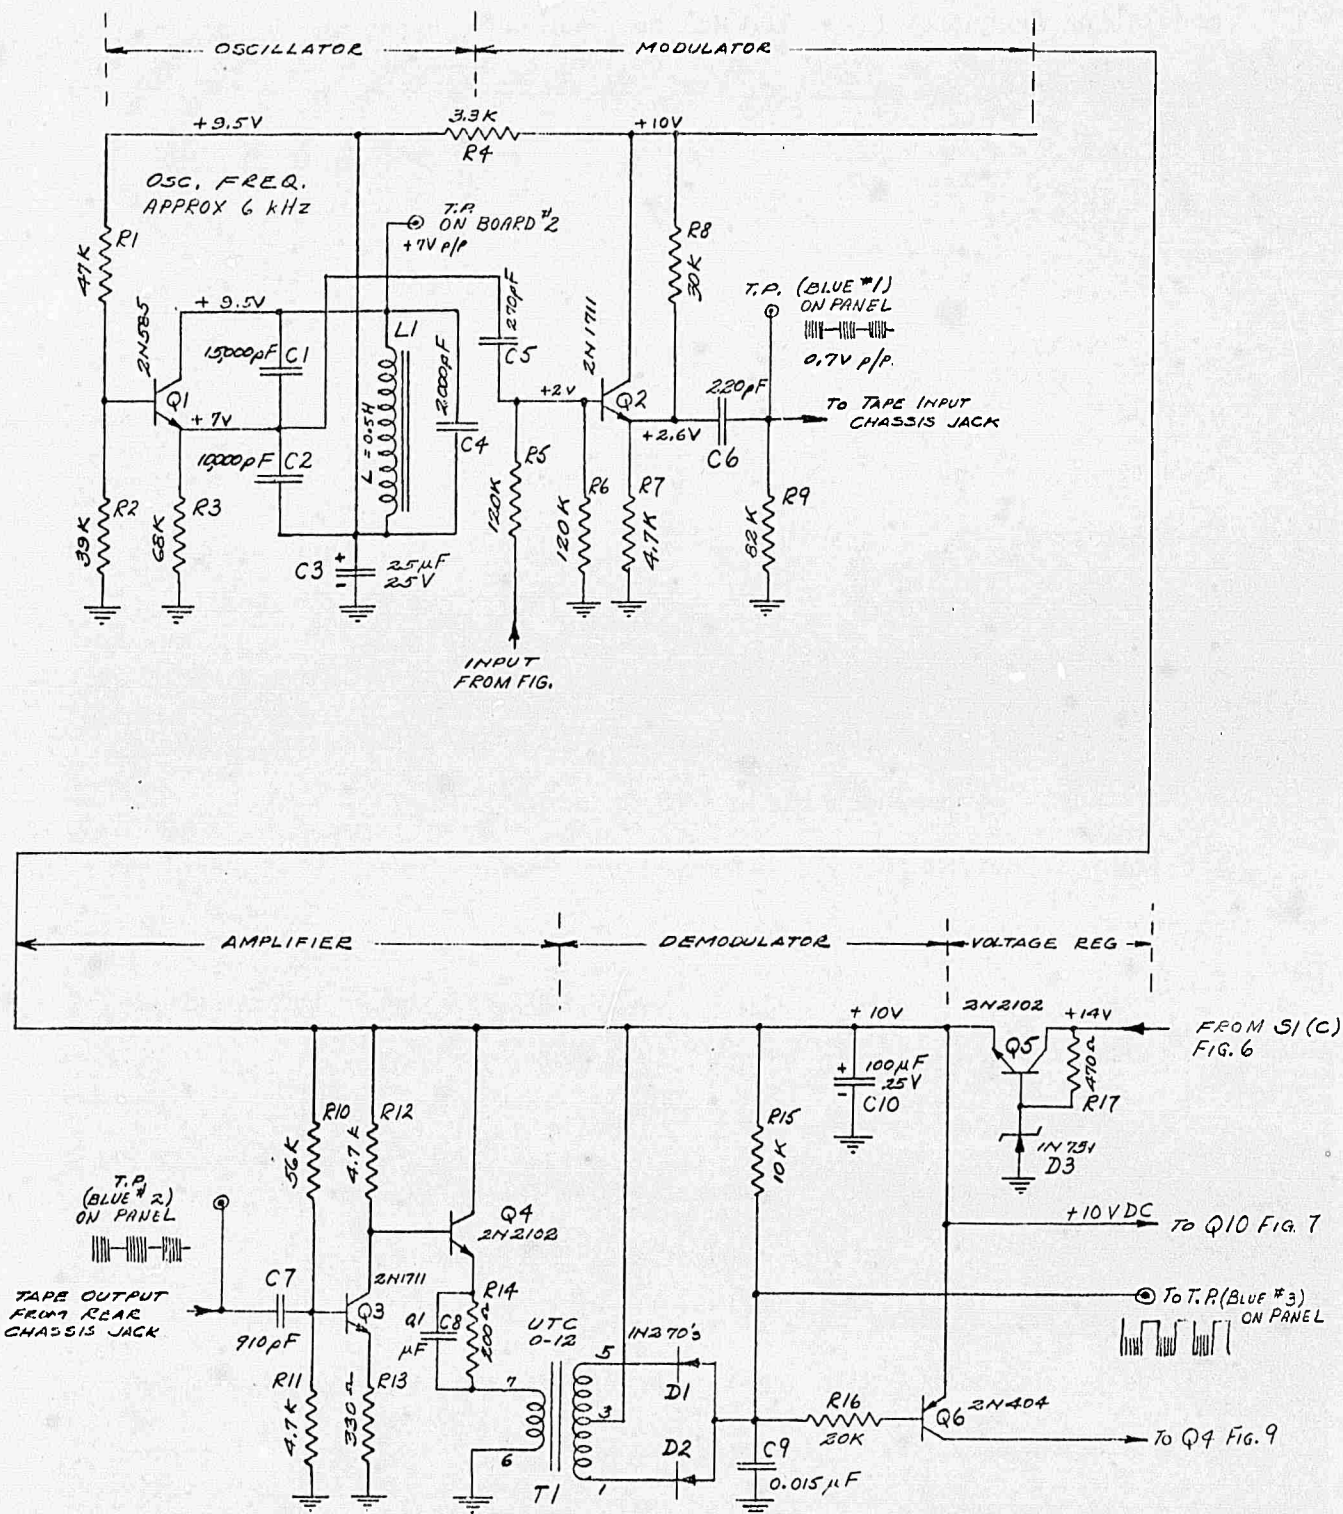
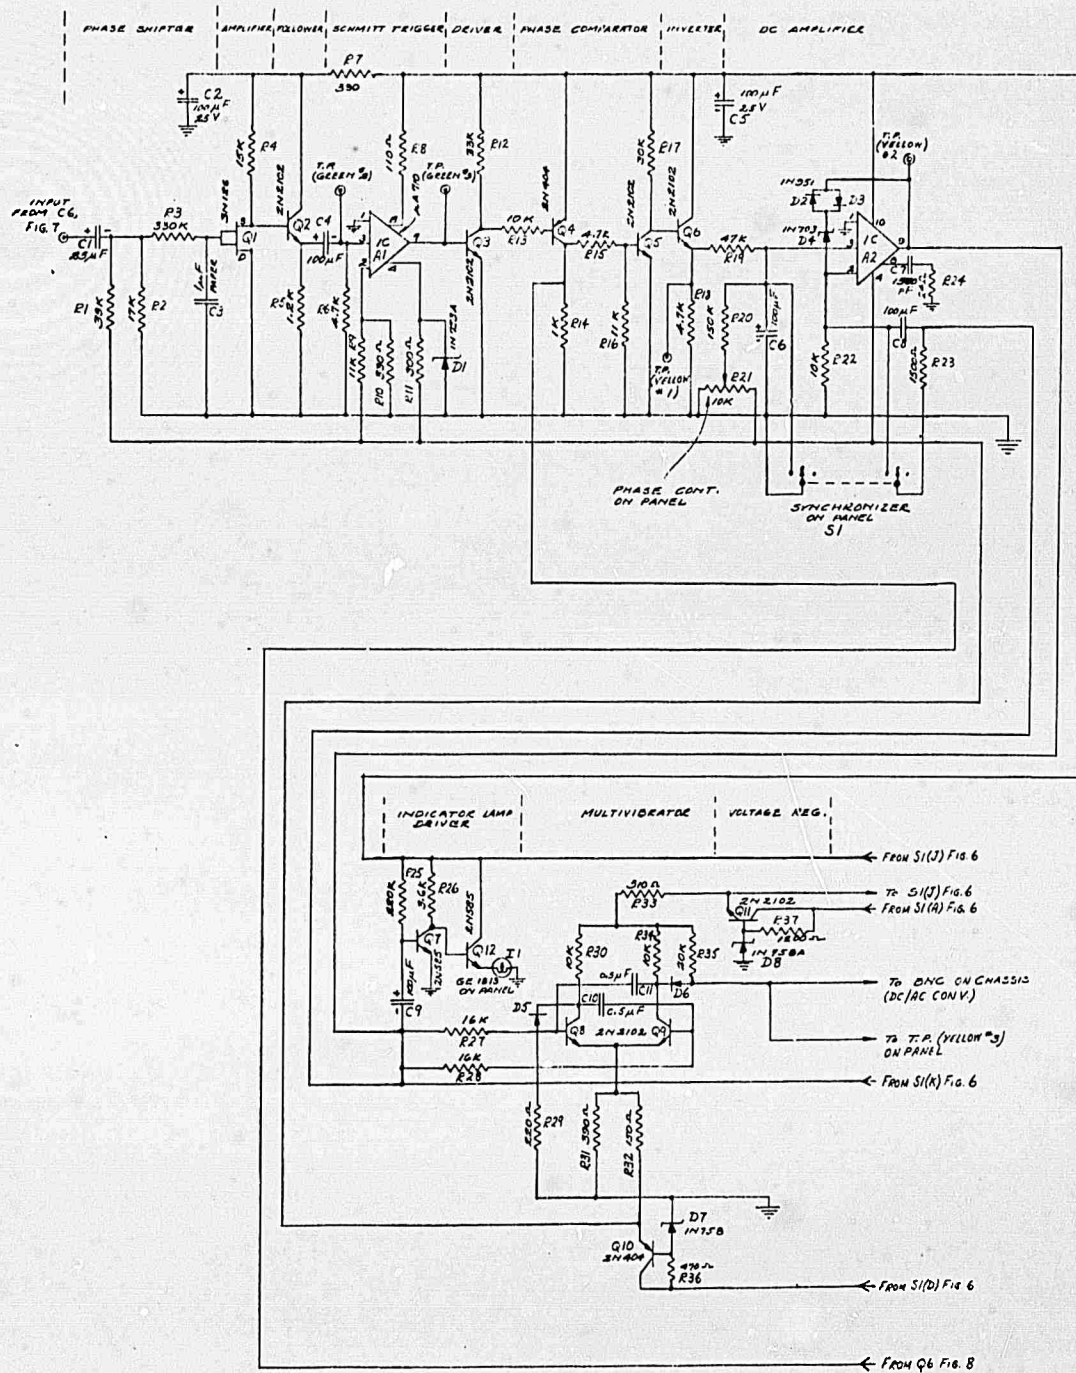

Figure 8. Tape-Deck Control-Channel Modulator/Demodulator (Board No. 2), Schematic Diagram
Figure 9. Tape-Deck Delay Servo System (Board No. 3), Schematic Diagram
4. Blue Test Points* (Fig. 8)
8. STABILITY Indicator (I1, Fig. 9)
9. PHASE Control (R21, Fig. 9)
10. SYNCHRONIZER Switch (S1, Fig. 9)
13. Yellow Test Points* (Fig. 9)
14. Green Test Points* (Fig. 9)
3.1.2 Modulator/Demodulator (See Fig. 8)
The demodulator is severely RC undercoupled into a single amplifier stage (Q6) with a gain of about 15, so as to remove the remaining low-frequency components plus any that accumulate within the Tape Deck electronics for any reason, including the rectification of remanent RF energy from the Retransmitter. A direct-coupled emitter follower (Q4) feeds a push-pull peak rectifier (T1, D1, D2), thus recovering the original modulating waveform envelope except for some residual carrier. It was possible to reproduce the original phase extremely closely, partly because it was a square wave, where zero crossings are most important. The recovered wave drives a pnp transistor (Q6), which is really part of the phase-comparator or combining circuit (Fig. 9). The phase-comparator output eventually automatically regulates the tape speed, so that the comparator output is the DC equivalent to a one-quarter-duty-cycle pulse train.
3.1.3 Quadrature (90° Lag) Circuit (See Fig. 9)
3.1.4 Phase Comparator (See Fig. 9)
The phase comparator (Q4) is the heart of the servo system; it compares the phase of the Tape-Deck-delayed wave from (Q6, Fig. 8) with that of the 90° -shifted wave. Its output is RC averaged (R19 and C6, Fig. 9) and amplified (A2) and used to control the frequency of an oscillator (multivibrator, Q8, Q9). The oscillator, in turn, determines the tape speed and, thus, the delay applied to the Tape-Deck inputs, and the Tape-Deck outputs feeding back to the comparator.
The main function is performed by coupling the outputs of two electronic switches (Q6, Fig. 8; and Q4, Fig. 9) to a single resistor (R14, Fig. 9). Each switch applies the same voltage, resulting in an output of positive pulses with varying duty cycle. When the tape-caused delay is exactly 180° (half a chopping cycle), a three-quarter-duty-cycle wave results. This is reversed to become a one-quarter-duty cycle, which is then averaged and amplified as DC(A2). This DC equivalent to the one-quarter duty cycle is balanced out with negative bias applied to amplifier A2; in effect, then, the phase comparator output is zero. Any variations from this zero condition would be due to servo errors (about $\pm 2^\circ$), and it is these variations (error voltages) that are amplified, as positive or negative control voltages for the multivibrator.
The bias applied to A2 to balance out the phase comparator output is adjustable by means of a front-panel control (R21, Fig. 9 and 9, Fig. 5). This control, once set, seldom requires readjustment, so long as accumulated servo errors remain fixed in terms of angles.
control voltage to zero, so that the servo will lock up automatically at the nearest valid condition (half-wave) to zero. Depressing the SYNCHRONIZER Switch (S1, Fig. 9 and 10, Fig. 5) momentarily sets up the zero-control-voltage (center-frequency) condition; on its release, the instantaneous error voltage determines the direction of control.
3.1.5 Servo Stability Indicator (See Fig. 9.)
The STABILITY Indicator Lamp (8, Fig. 5, and 11, Fig. 9) is connected to a lamp driver circuit (Q7, Q12) fed by the phase-comparator output amplifier (A2).
Power-supply decoupling is an important problem, especially as the low switching rate of 10 Hz must be accommodated, and cross feeds can cause undesirable phase shifts, false Schmitt Triggering, etc. Satisfactory conventional RC decoupling circuits would be troublesome, i.e., they require very-low series-resistor values to maintain reasonable voltage stability, and very-large capacitors, to be effective at 10 Hz. To overcome this, simple voltage regulators, consisting in each case of a transistor, zener, and resistor (e.g., Q10, D7, R36, Fig. 9), have been inserted into many of the power-feed circuits. Circuit voltages under this arrangement hold steady
The Converter is a Terado Model 50-201, designed to operate from a 12 V storage (automobile) battery. Its normal output frequency is at or near 60 Hz. As made by Terado, a mechanical vibrator determines the output frequency, and a transistor-switch arrangement (Q3-Q4) pulses the transformer (T4) to provide the desired AC output. The unit has been modified, however, so that an external signal can be used instead of the vibrator (not shown in Fig. 10), whose frequency is fixed by mechanical parameters. The external signal, which comes from the multivibrator of Fig. 9, is fed into a circuit (Q1) which, in turn, activates the same circuits as did the vibrator. Thus, the output frequency is dependent upon the frequency of the multivibrator. Note that the transistor-switch arrangement could be destroyed if an abnormally-low (below 50 Hz) vibrator excitation frequency were used, because of the consequent high magnetizing current. The modification has been designed to prevent this occurrence.